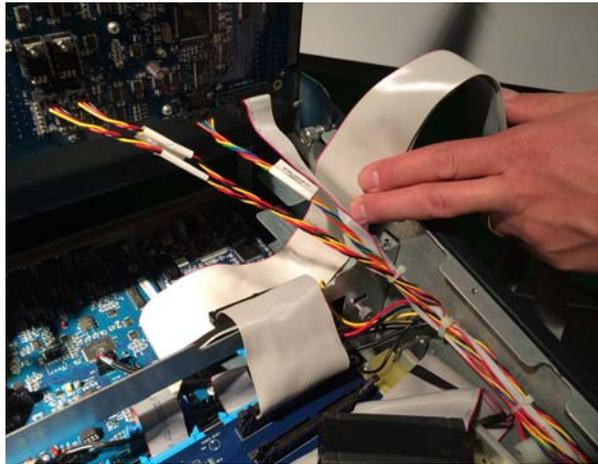

Figure 2-11 Routing the ribbon cables next to the chassis wall (viewed from right side of SC48)
2. Route the two ribbon cables that you connected to the Main I/O card next to the right-inner wall of the chassis. Position the cables as shown below in Figure 2-11 (so that the cable connected to port J28 is on top of the cable connected to port J29).